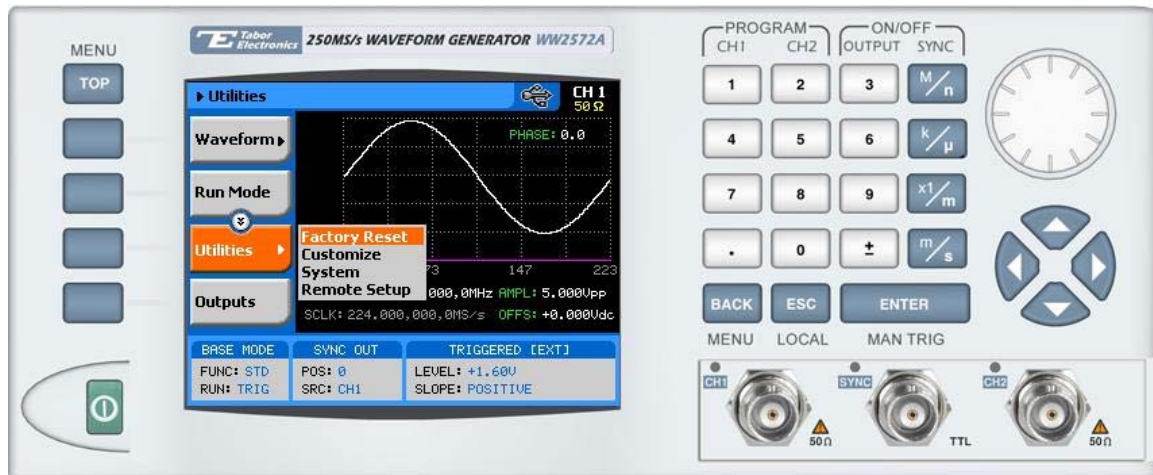

Figure 3-1, Reset 2074 to Factory Defaults
Observe Figure 3-1 and reset parameters to factory defaults as follows:
The 2074 has over 300 parameters that control functions, modes, waveforms and auxiliary functions. Due to the complexity of the product, the functions were divided to logical groups and sub-groups and access to these groups is provided using the soft key menus. There are five main menus, of which can be accessed after pressing the TOP soft key; These are shown in Figure 3-1 and are mark as item 3 (A, B, C and D). The main menus are Waveform, Run Mode, Utility, Outputs and Auxiliary. Each main menu provides access to sub-menus as summarized in Tables 3-2 to 3-5. Note that the description in these tables is given for general understanding of what is available in terms of operating the instrument. For detailed instructions, check the appropriate section of the manual.